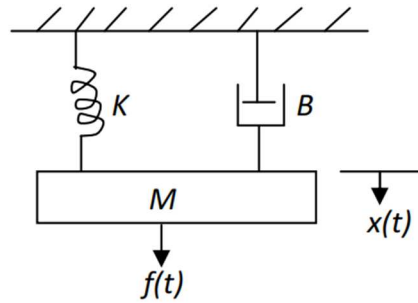

Figure-2.1.1
Q).Consider the simple mechanical system as shown in the figure-2.1.1 below. Three forces influence the motion of the mass, namely, the applied force, the frictional force, and the spring force.